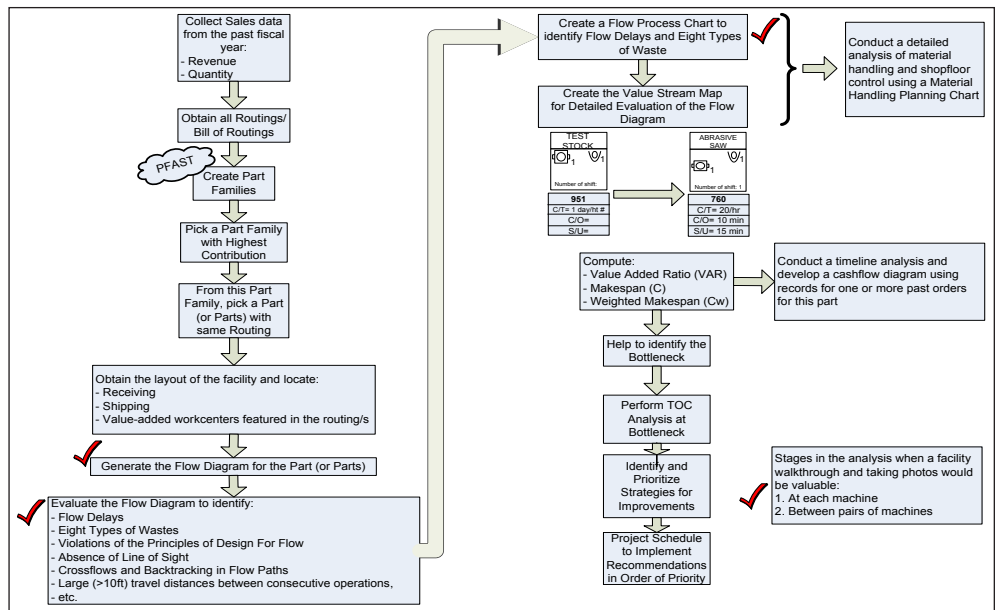

Figure 1 A Quick-Start Approach for Implementing JobshopLean.
Figure 1 presents a flowchart for a “Quick-Start” (Q-S) approach for implementing lean in job shops. Perhaps the biggest departure from value stream mapping is the use of product-process matrix analysis of the entire product mix to find a clear-cut, significant and stable part family. Using a sample of routings from this particular part family, several industrial engineering analyses are done: (1) a spaghetti diagram to understand the flow disruptions due to the layout and building architecture, (2) a process flow chart to break down the product flow into activity elements and delays that are not captured in a value stream map, (3) a material handling analysis chart to understand the flow disruptions due to the material handling equipment and containers being used, (4) absence of Line-Of-Sight between key workcenters, (5) communications and logistics that support schedule execution, etc. The use of a video camera to make a live video recording of a “gemba walk” of the entire value network for the routings that were selected is strongly recommended.